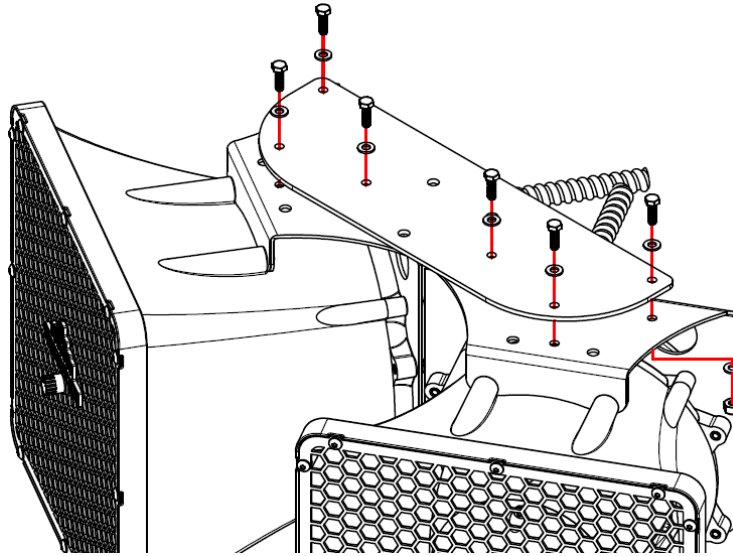

Figure 4: Attaching a Dual Mount Plate
- 1) To mount two Magnacast II systems to the same wall mounting bracket, use an optional Dual Unit Mounting Adapter. Attach the dual mount plate to the Magnacast II mounting brackets with the hardware provided in the kit (Figure 4).